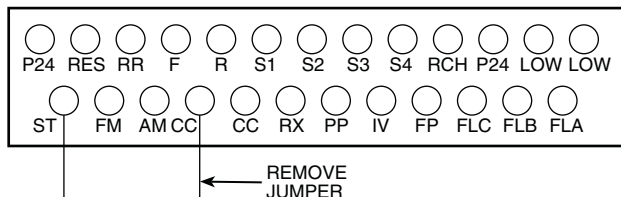

Fig. 49 — Jumper Removal to Disable Motor
1. Drive enable jumper is installed from terminals ST-CC (factory supplied) (see Fig. 49).
4. Remove jumper from terminals ST-CC (see Fig. 49) and replace VFD cover.